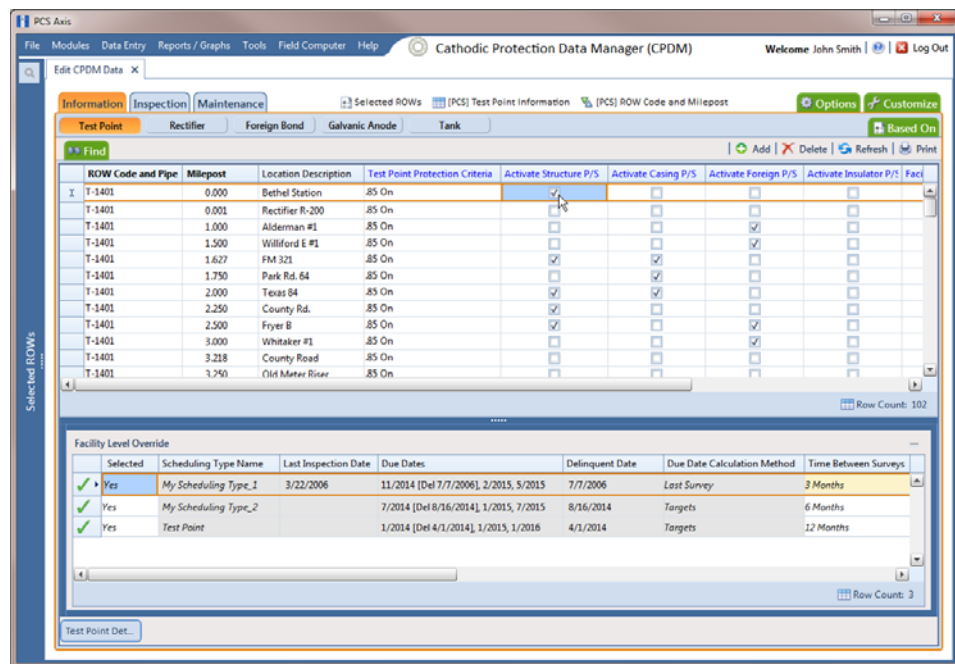

Figure 7-96. Information
- 3 Open the *Information* grid for a facility type. For example, click the **Information** tab  and then a facility type button, such as **Test Point**  (Figure 7-96, page 312).